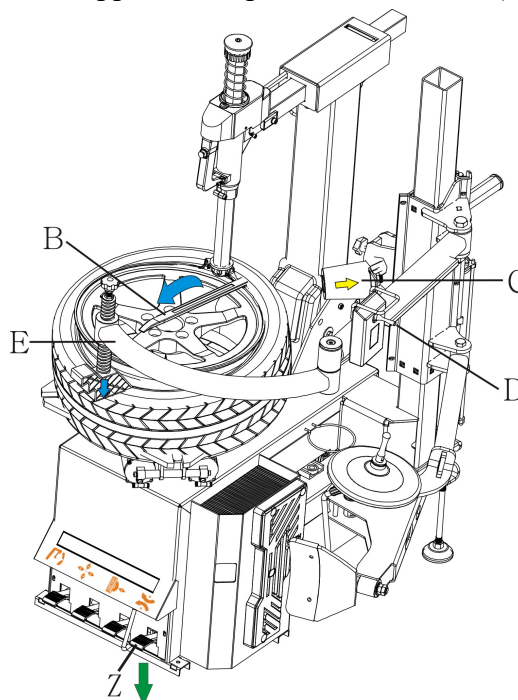

Fig. 11
- Raise the assistant arm and pull back the Roller C. Turn the arm E and put the block against the tyre on the other side of the mounting head. Press the switch D and turn it down, then pull the crowbar and make the bead upon the mounting head. (Fig. 11)
- Press the pedal Z to turn the working plate until the upper bead apart from the rim. (Fig. 11)